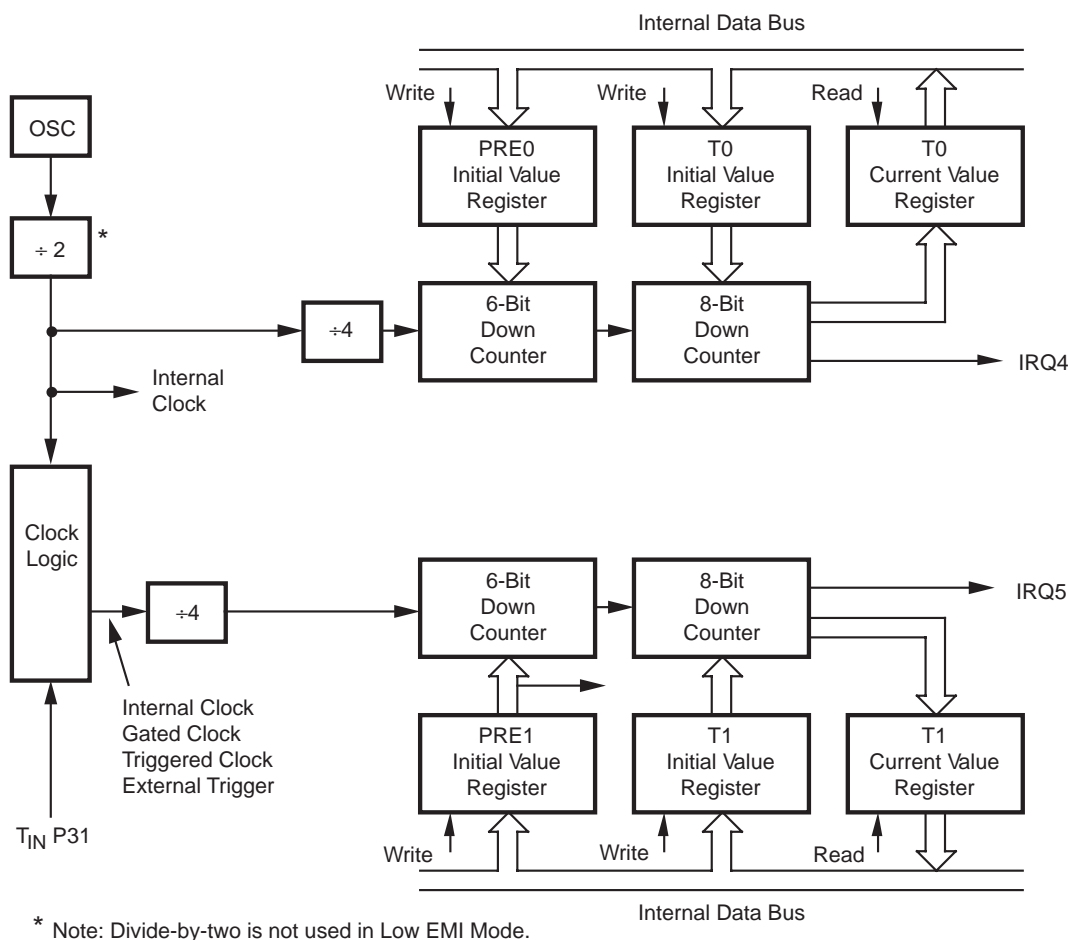

Figure 13. Counter/Timers Block Diagram
**Counter/Timer.** There are two 8-bit programmable counter/timers (T0 and T1), each driven by its own 6-bit programmable prescaler. The T1 prescaler can be driven by internal or external clock sources, however the T0 can be driven by the internal clock source only (Figure 13).